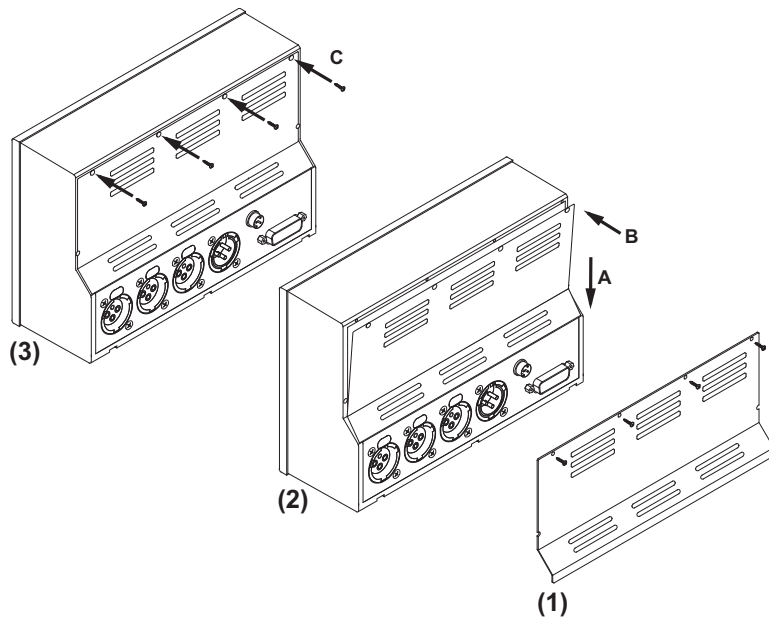

Fig. 8-12: Mounting the backplane cover
15. Place the backplane cover back to the upper flange of the connector panel (A) and fold it into the tracks of the case (B). Fasten it with the four screws (C). (Fig. 8-12)